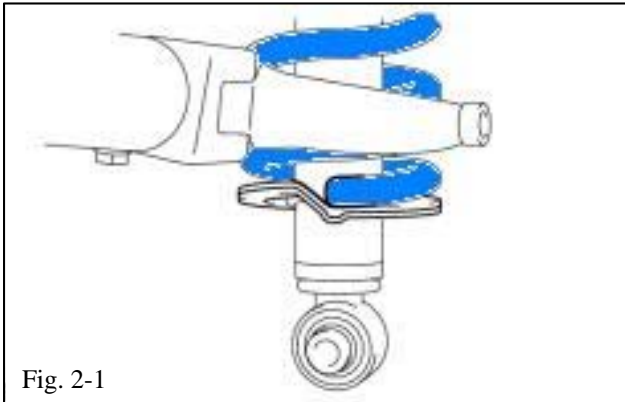

Fig. 2-1
- (a) Fit the rear coil spring end into the recessed part of the rear lower shock absorber seat (Fig. 2-1).